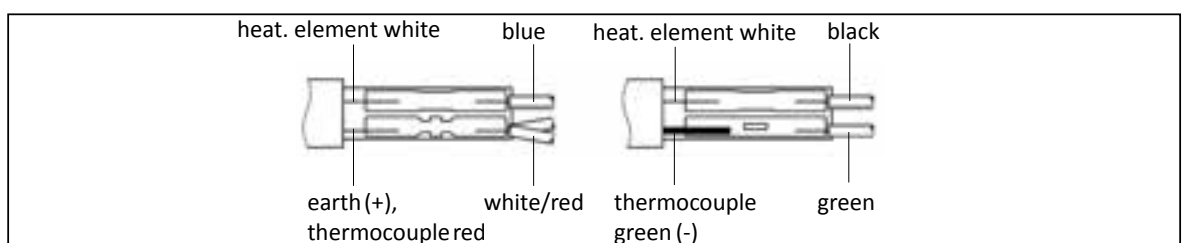

Figure 23
- Restore soldering connection between the heating element and the connecting wire (fig. 23).